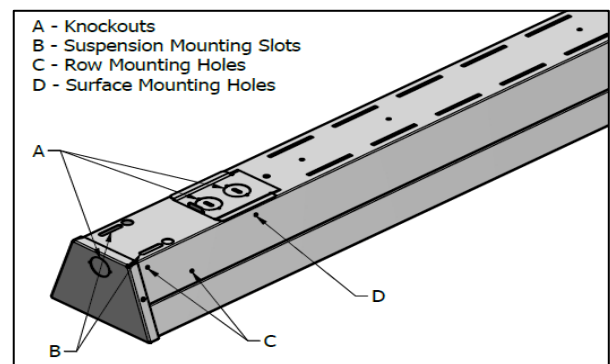

Figure 3
5. Attach the main luminaire body to the ceiling using suspension slots represented by symbol B in Figure 3. These holes can also be used for suspension mounting. Symbols C & D in Figure 3 show the holes where row or surface mounting brackets are attached (see below for instructions).